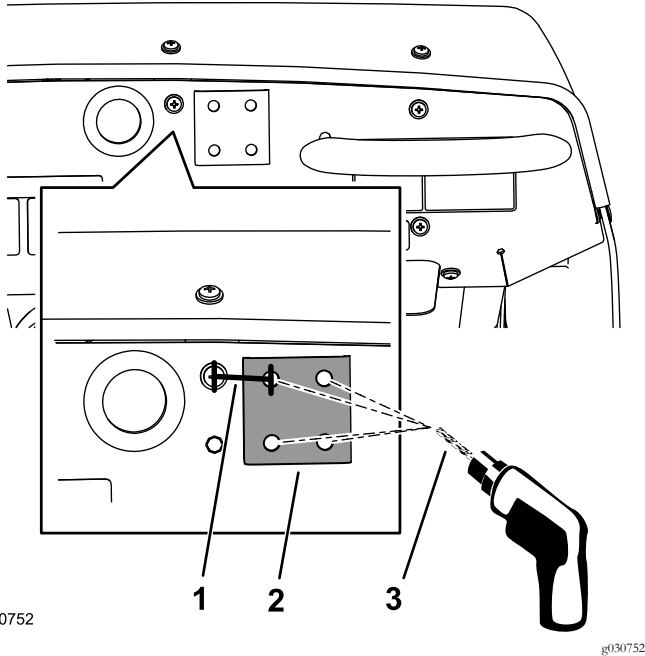

Figure 151
- At the dash of the machine, locate the dash-panel screw to the right of the hole grommet in the dash (Figure 151).
- Measure to the right of the center of the screw 33.3 mm (1-5/16 inches) and with a pencil, mark the location with a vertical line (Figure 151).
- Drill the dash panel at the center punch mark with an 8 mm (5/16 inch) drill bit (Figure 151).
- Align the stiffener plate horizontally to the top of the dash panel and using the stiffener as a template, drill the remaining 3 holes in the dash (Figure 151).